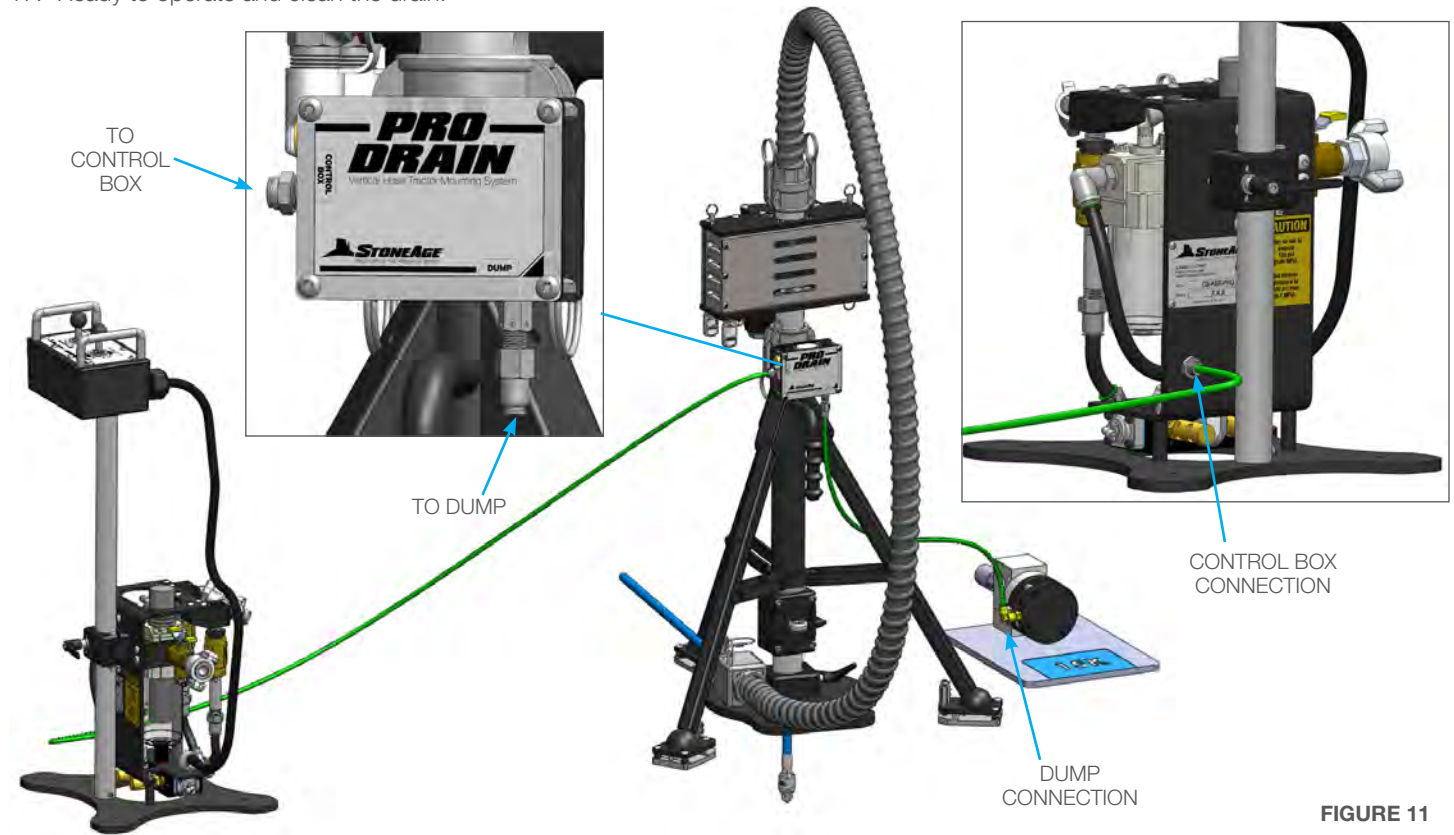

FIGURE 11
13. Connect 1/4" air lines from Control Box to the valve assembly on the Tripod Stand and from the Tripod Stand to the Dump. **(Figure 11)**